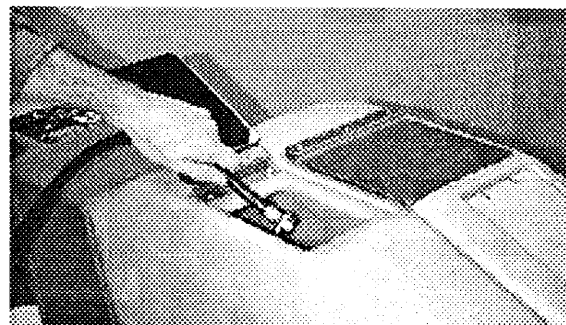

FIG. 9.
3. Open solution tank lid at top right side of machine and fill tank with clean water (140°F/ 60°C maximum temperature). Do not fill beyond the bottom lip of the float chamber. (Figure 9)